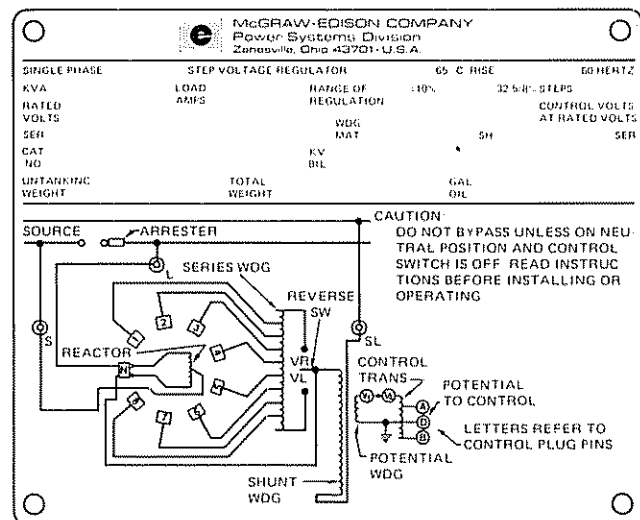

Figure 9
- A. Determine the ratio of the regulator by dividing the rated voltage by the control volts at rated volts. Both of these factors appear on the nameplate (Figure 9).